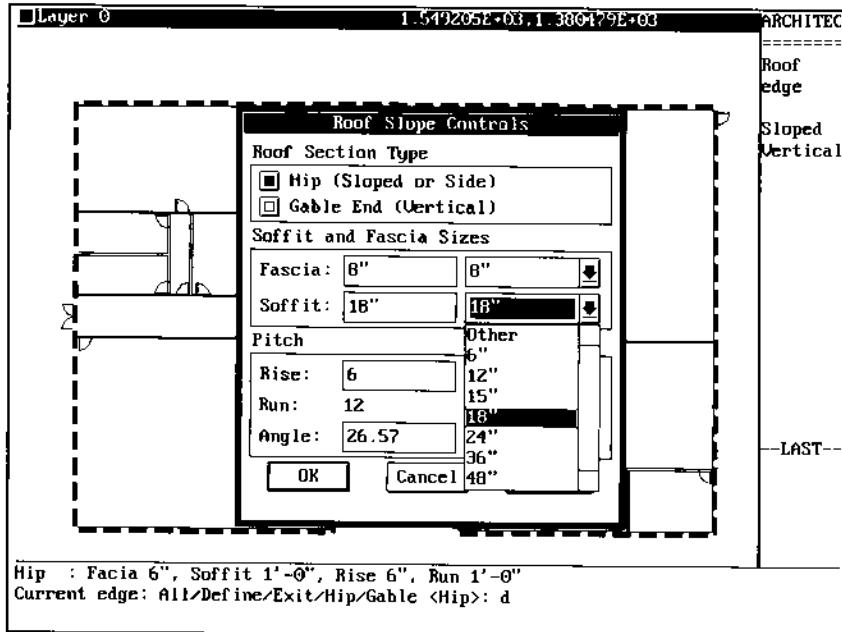

Figure 6.
3. A dashed polyline outline is drawn on the layer RFPERIM around the perimeter of your proposed roof as shown in Figure 6.